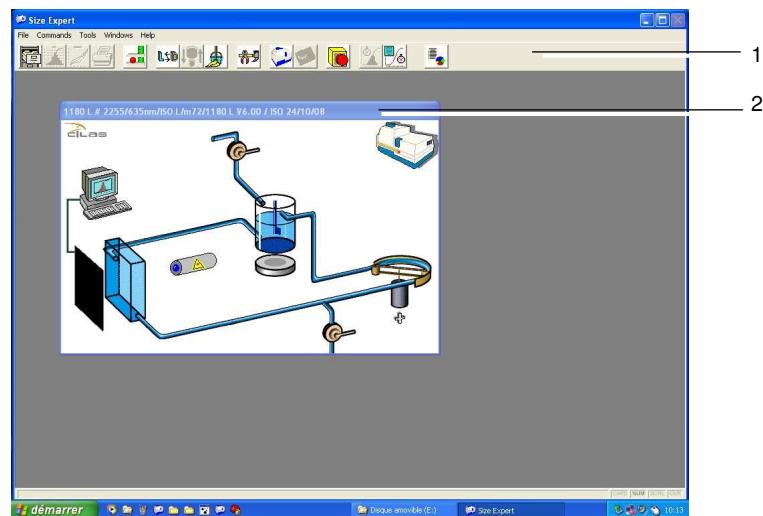

Figure 107: the mimic panel displays maintenance mode
A further `<Ins> + <F12>` key sequence when the application window has the focus (click in ref. 1, Figure 107) exits maintenance mode. The words *Maintenance mode* are removed from the title bar of the mimic panel.